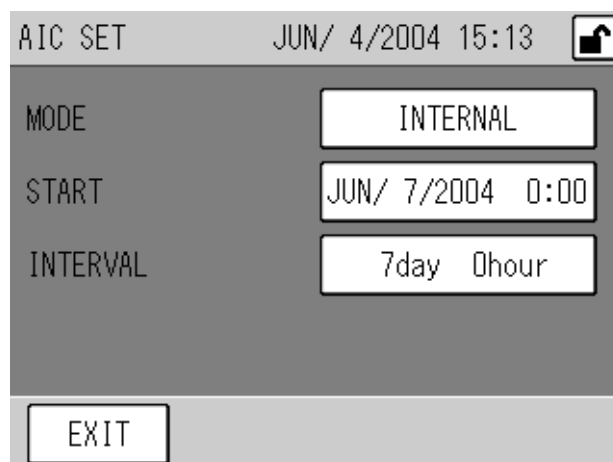

Fig. 17 AIC SET screen
2. The automatic calibration starts according to the AIC start time interval set in the AIC SET screen (page 22 Fig. 17).